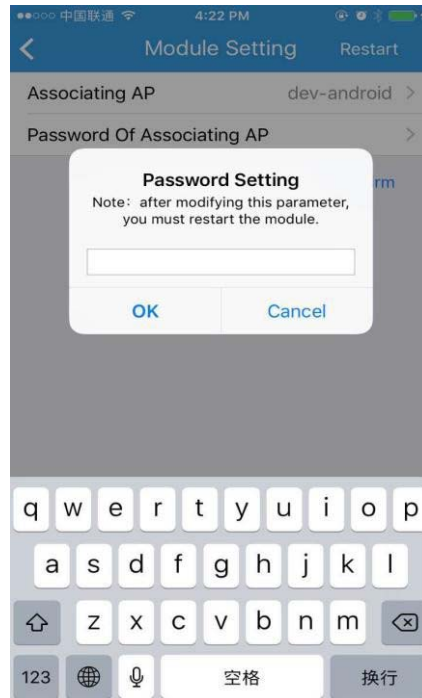

Figure 18
4. Click the Password to set the Wi-Fi password connecting to the router (you can skip to the next step if no password is set for the router), as shown in Figure 18, click OK when setting is completed.